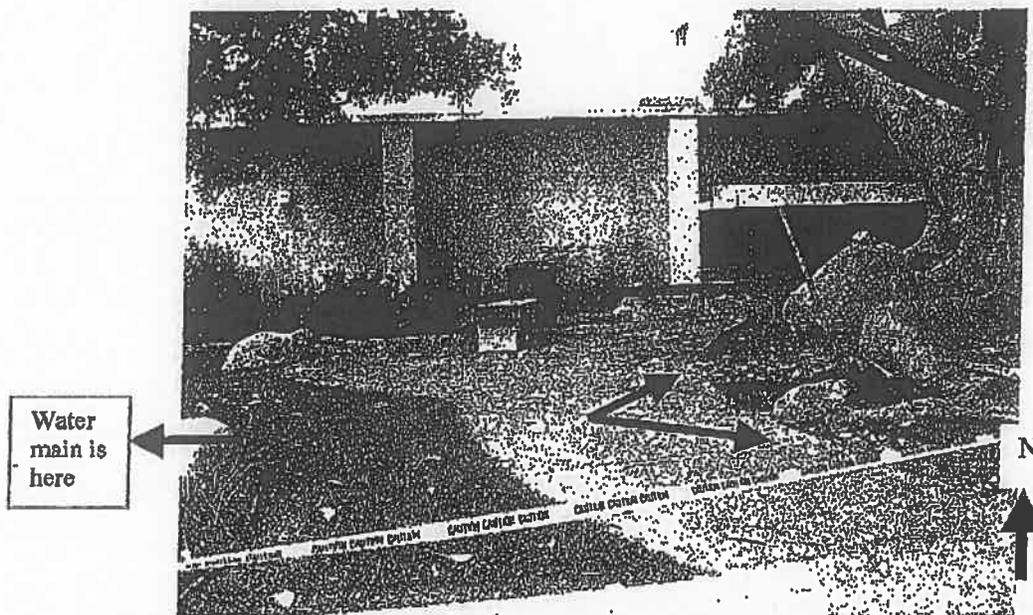

Figure 5: The walkway on the west side of the tree. The center arrows indicate the region of extensive root pruning for the walkway. (See figure 6).
5. There is a concrete walkway and benches beneath the canopy on the west side of the trunk. This walkway originates and ends on the sidewalks of Castillo and Pueblo streets and varies in width from 4' to 12'. According to Brooks Larsen this walkway was installed about 10 to 15 years ago and required significant root cutting. Large diameter root cuts are easily recognized at the soil surface. (See figures 5, 6 and 7).
9. Along the south side (Pueblo St.) are tall lighting fixtures (2) that rise several feet from the ground. These appear to be connected from an electrical box between the two fixtures. There is also another electrical box in line with the first but closer to the tree trunk. This electrical system was reportedly installed in the 1980's.